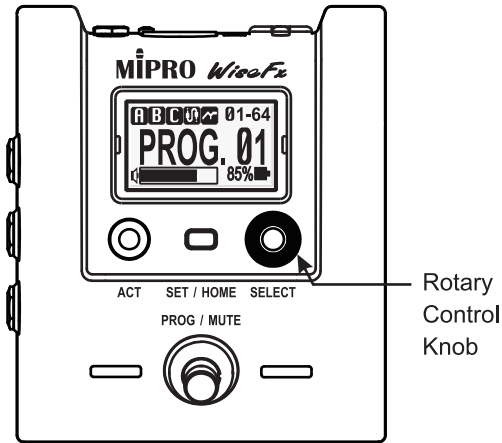
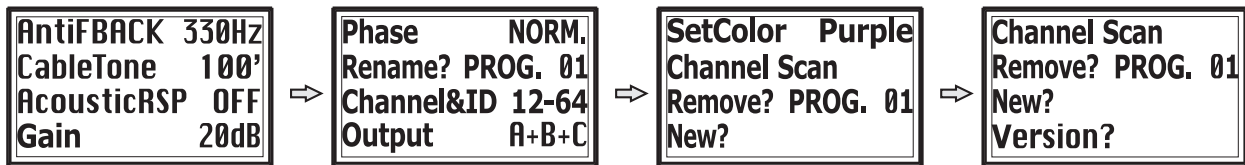

Fig. 10
Fig. 11
(A) A navigation control for programming selection, Fig. 10:
- (1) At the primary screen, turn right or left to select prestored programs.
- (2) At the primary screen, press SET / HOME  to enter function setting screen.
- (3) At the primary screen, turn the knob to choose a selection, press again to activate the current selection. Rotate to choose a new selection, and press the knob to store. Press SET / HOME button again to return to primary screen.
(B) Function Setting Sequence Screen, Fig. 11: